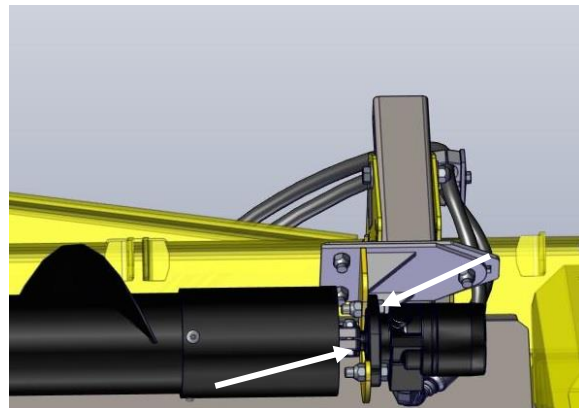

Figure 216
2. The bolt retaining the drive joint can be removed. The hoses can be removed from the motor. Note: Cover the fittings and port on the motor after the hoses are removed to avoid getting dirt in the motor. Figure 216